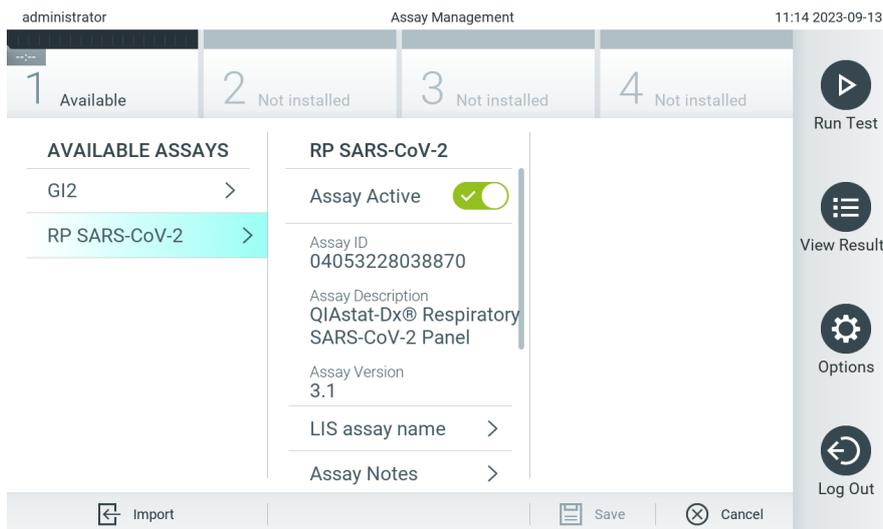

Figure 59. Activating the assay.
**Note:** If External Control (EC) samples are linked to an assay that is overwritten by a new version, the EC sample is reset and needs to be reconfigured. For more information refer to Section External Control (EC) settings.
7. The assay becomes active by selecting Assay Active (Figure 59).